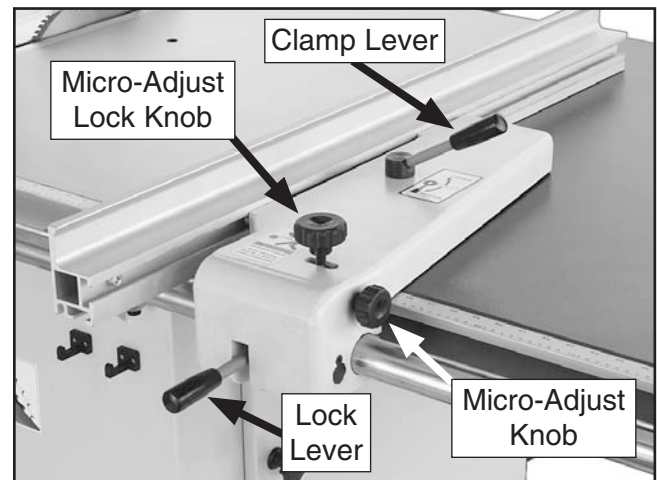

Figure 83. Rip fence controls.
5. Lift the fence lock lever and position the rip fence to the approximate width-of-cut (see **Figure 83**).